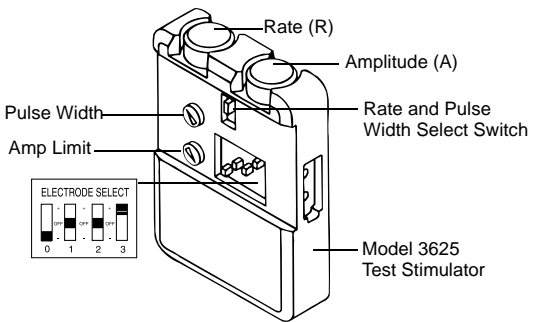

Figure 28. Test stimulator control settings.
1. Check the test stimulator controls as follows (Figure 28):
- Rate (R) to 15 Hz
- Amplitude (A) to OFF
- Electrode Select switches as shown in Figure 28 (or as appropriate to achieve optimal patient response)
- Because the test stimulator A (Amplitude) dial can be adjusted by the patient, you may want to restrict the maximum amplitude. To do this, set the Amp Limit control (Figure 28) to a lower value appropriate to the patient's stimulation requirements.
7. Schedule a return evaluation. Test stimulation typically lasts 3-5 days but should not exceed seven (7) days to minimize the risk of infection.